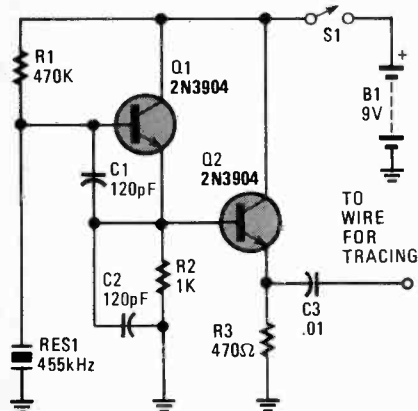

Fig. 1. The Bug Tracer circuit can be used to ferret out eavesdropping devices and trace the connecting wires back to the source, by detecting RF emissions.
**Bug Tracer.** The first circuit (see Fig. 1) can be used to ferret out a single bug and trace its connecting wire back to its origin in a matter of minutes. The Bug Tracer is made up of a simple RF-injector circuit (consisting of Q1 and Q2) and a pocket-size, AM broadcast receiver. The two-transistor RF injector circuit supplies a constant RF signal to one end of a cable. Then the AM receiver is used as a detector, allowing you to trace the wire to its source.